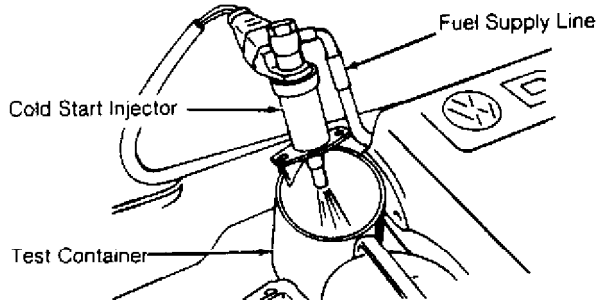

Fig. 8: Typical Cold Start Valve Test Arrangement
2) Remove ignition coil secondary wire and jumper to ground. Attach metal housing of cold start valve to ground. Direct cold start valve nozzle into a clean container. See Fig. 8. Have assistant turn ignition switch to the "START" position while observing spray pattern.